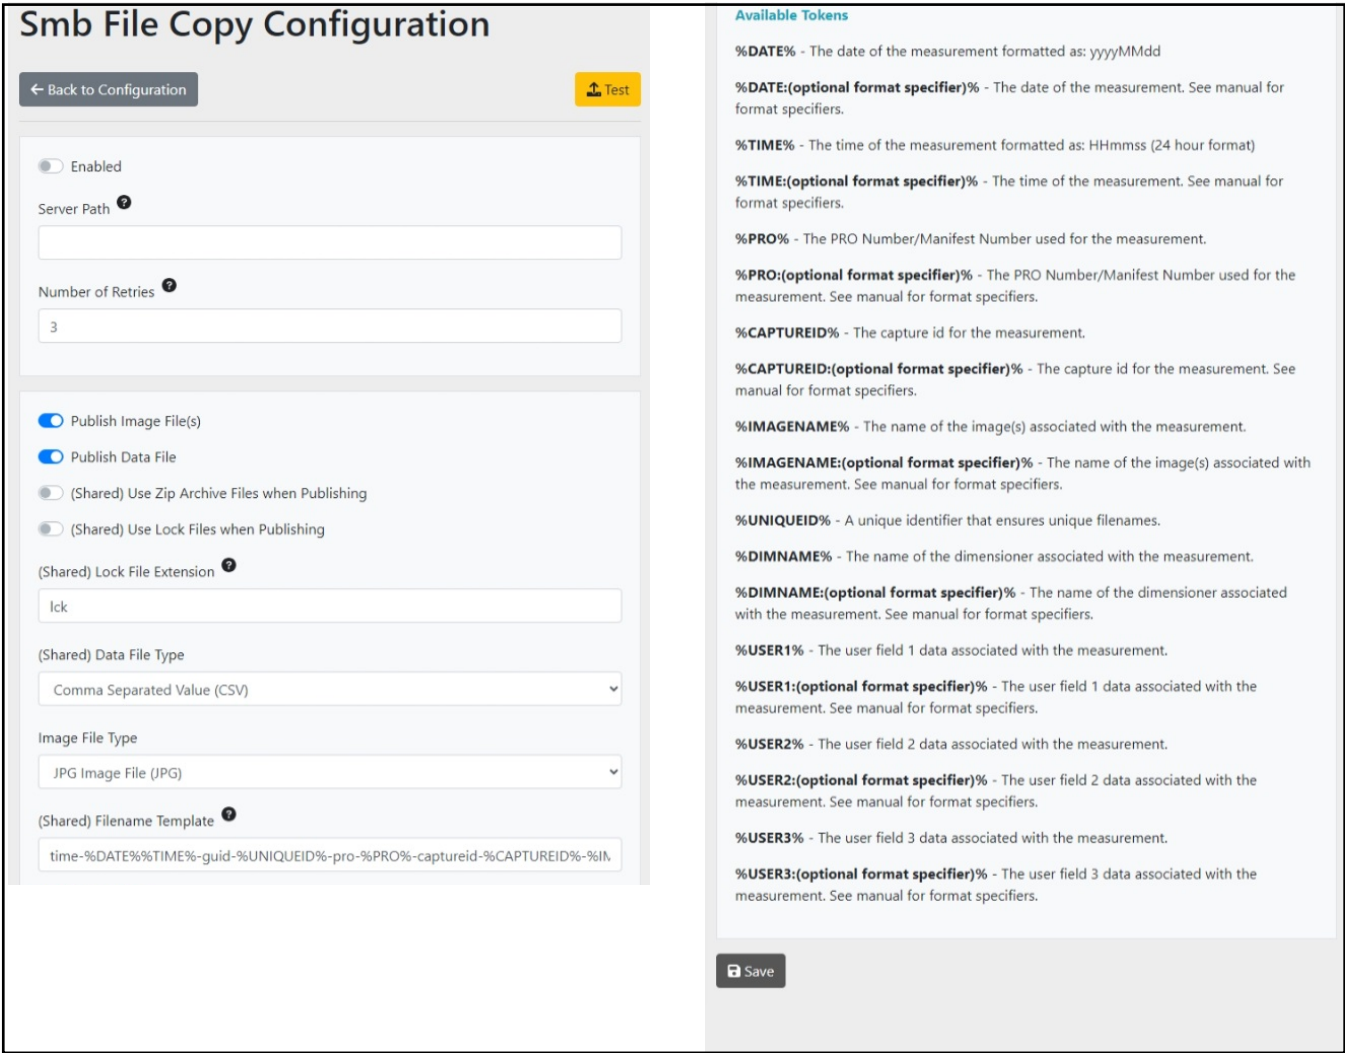

Figure 3-46. SMB Configuration Page
2. The Smb File Copy Configuration page displays (Figure 3-46 on page 63).